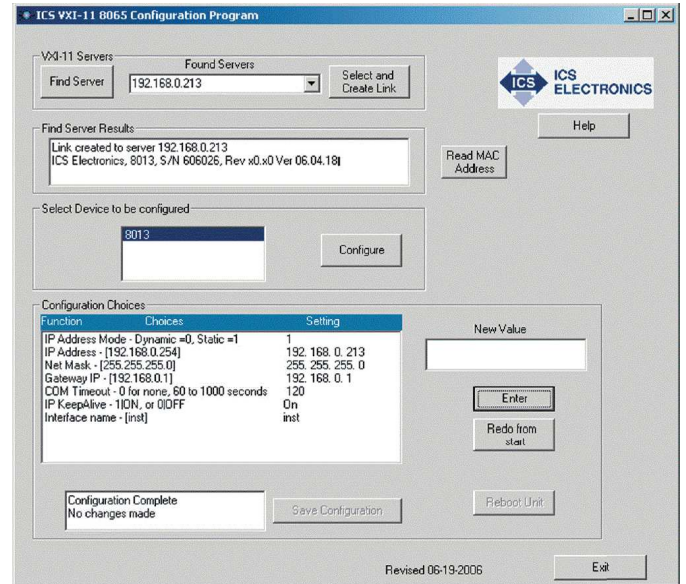

Figure 5.8 - VXI-11 Configuration Utility
4. Run the VXI11_config program. The Configuration Utility opens a window as shown in Figure 5.8. Initially only the Find Server, Help and Exit keys are enabled on the program window. The other keys will be enabled as you advance through the program.
9. Repeat step 8 for each configuration parameter. Figure 5.8 shows the VXI-11 Configuration Utility after all parameters have been entered for a Model 9006. Click the Redo From Start key if